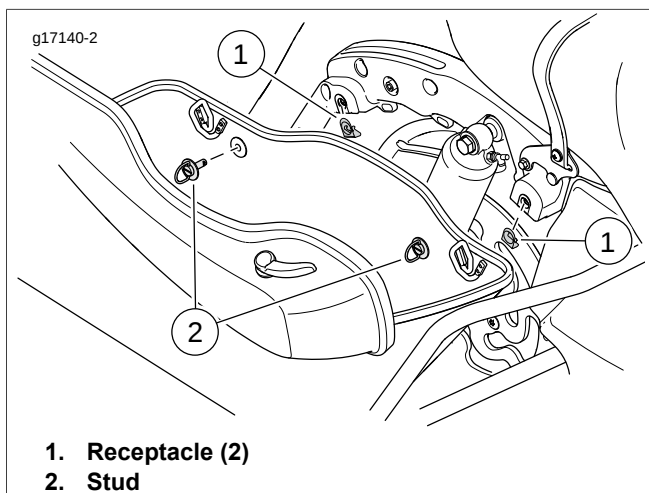

Figure 2. Saddlebag Stud Receptacles
2. See Figure 2. Remove saddlebags.
3. Remove receptacles (1).
5. Install saddlebags using original studs (2) and washers.